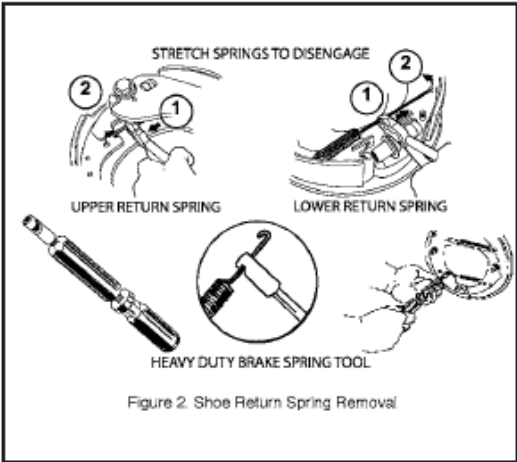

Figure 2. Shoe Return Spring Removal
- (8) Remove both shoe-return springs. Use pliers, vice-grips, or a heavy duty brake spring tool as shown in Figure 2.